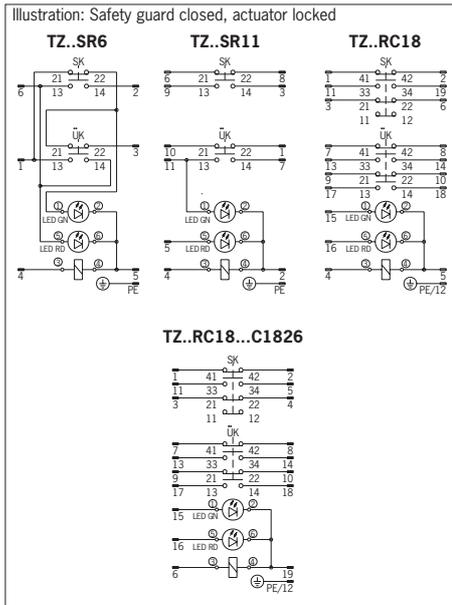

Fig. 2a: Terminal assignment
¹⁾ The LED function is described in these operating instructions based on version TZ...SR6 with standard wiring (see Figure 2a: pin 1 = ⊕ / pin 5 = ⊖ / pin 2, 3, 6 to the PLC).
- ▶ For terminal assignment see Figure 2a.
- ▶ For connector assignments see Figure 2a-2b.